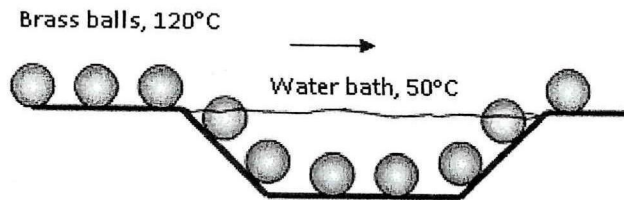

Figure Q2(c)
- (c) In a manufacturing facility, 5 cm diameter brass balls ($k = 111 \text{ W/m}^{\circ}\text{C}$, $\rho = 8522 \text{ kg/m}^3$, and $C_p = 385 \text{ J/kg }^{\circ}\text{C}$) initially at 120°C are quenched in a water bath at 50°C for a period of 2 min at a rate of 120 balls per minute (as shown in **Figure Q2(c)**). If the convection heat transfer coefficient is $238 \text{ W/m}^2\text{ }^{\circ}\text{C}$, determine the temperature of the balls after quenching and the rate at which heat needs to be removed from the water in order to keep its temperature constant at 50°C . (15 marks)